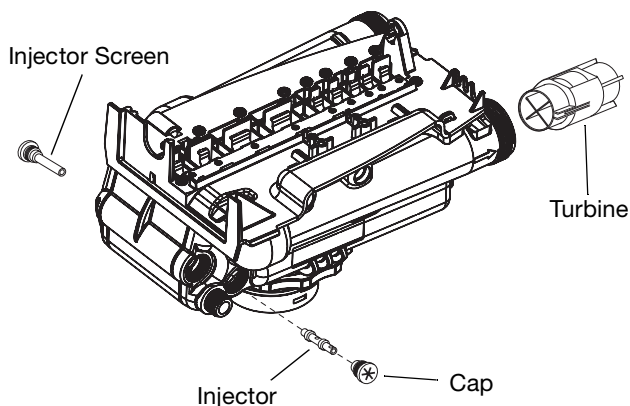

Figure 14
4. Using a screwdriver, remove injector screen and injector cap (Figure 14).
4. Using a needle-nose pliers, remove the turbine from the outlet housing. Grasp one of the four vanes of the outer gland and pull straight out to remove turbine assembly from the outlet of the valve (Figure 14).